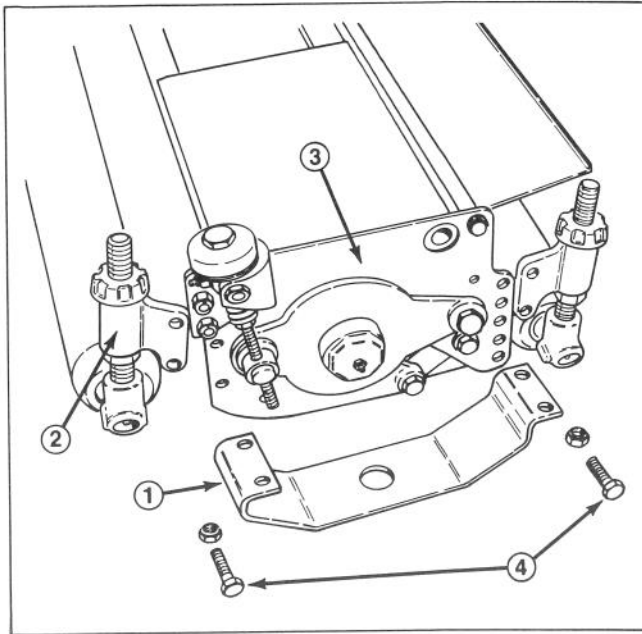
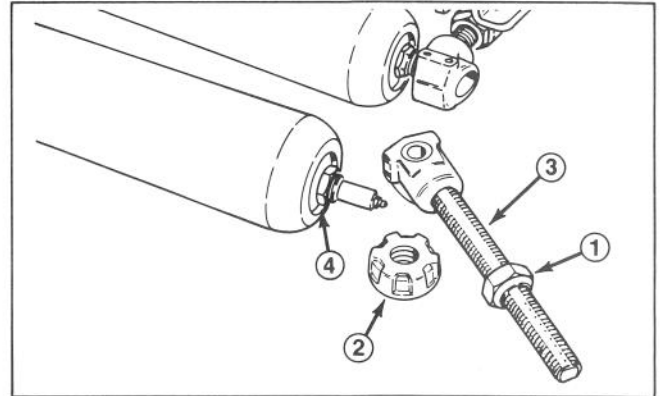

Figure 31
Figure 32
1. Remove the fasteners securing the guard and roller adjustment housing to the side plate (Fig. 31) or loosen the cone nuts on the threaded adjustment rod, unscrew the adjustment knob and drop the threaded rod out of the adjustment housing (Fig. 32).
2. The threaded rod and collar assembly can be removed from the roller by sliding it off the shaft at both ends (Fig. 32).
IMPORTANT: When assembling a new roller to the cutting unit mount the roller so that the roller shaft "flex lock nut" is on the right side of the cutting unit (Fig. 32). (As viewed by the operator sitting on seat of machine). This prevents the lock nut from loosening during operation.